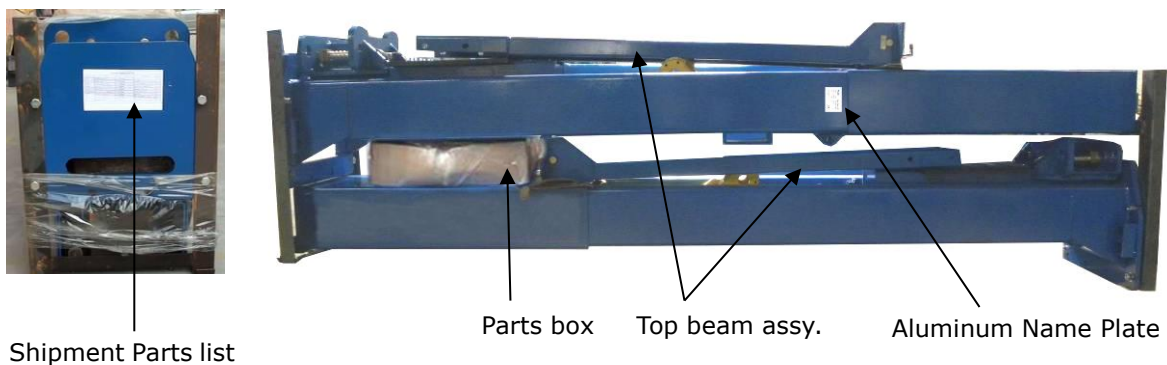

Fig. 8
2. Move the lift aside with a fork lift or hoist, and open the outer packing carefully (See Fig. 8).